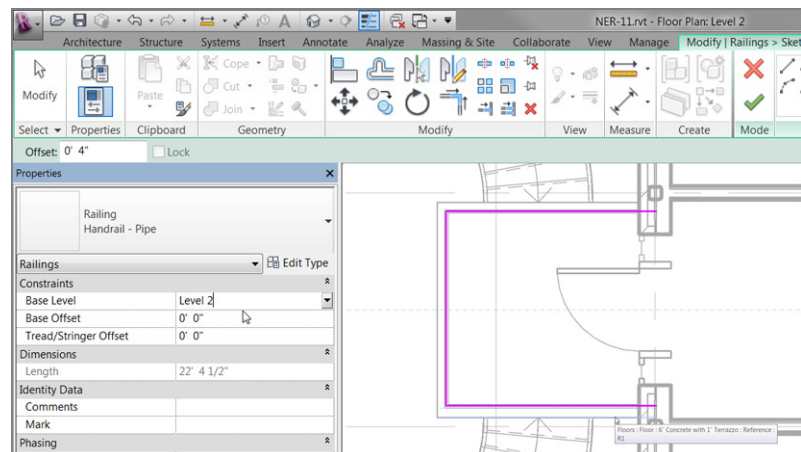

FIGURE 10.52: Adding the railings to the landing
3. On the Draw panel, click the Pick Lines icon, as shown in Figure 10.52.
5. Pick the landing lines to offset in the railing (see Figure 10.52).